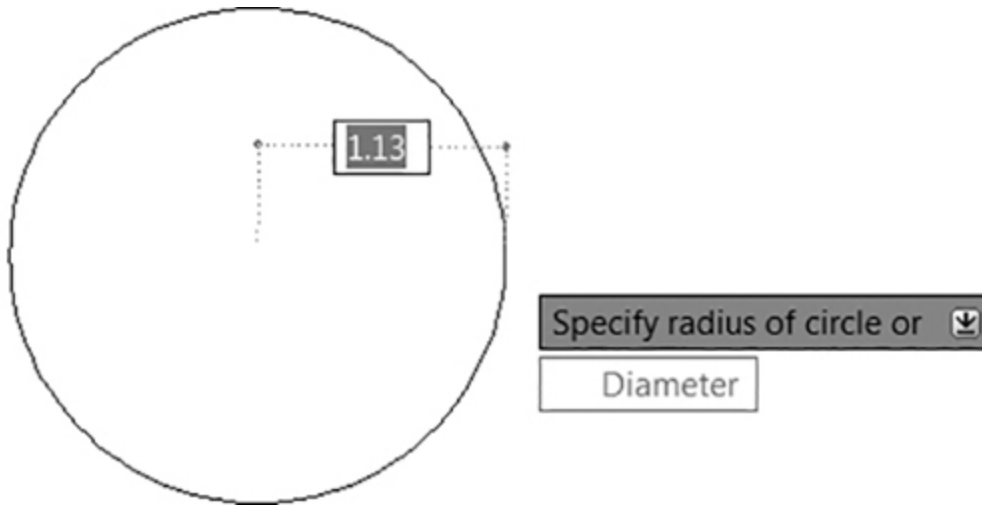

Figure 4-12
- 4 Type **1,3<Enter>**. AutoCAD places the center of the circle and starts dragging the radius. A preview image of the circle appears (see Figure 4-12). AutoCAD prompts you to *Specify radius of circle or* ↓.